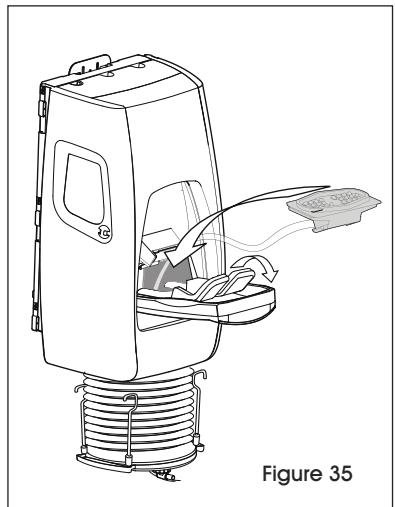

Figure 35
- To remove the front panel to replace the battery, use a screwdriver or pen to push on release button and gently pull door open. Remove nozzle from its compartment and pull headrest towards you. Push nozzle and tube inside unit, under cartridge. (See Figure 35)